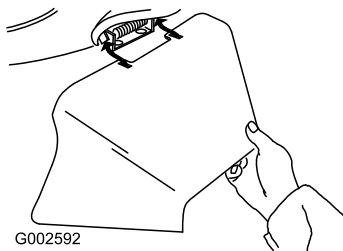

Figure 26
3. Install the side discharge chute and close the door onto the chute (Figure 26).